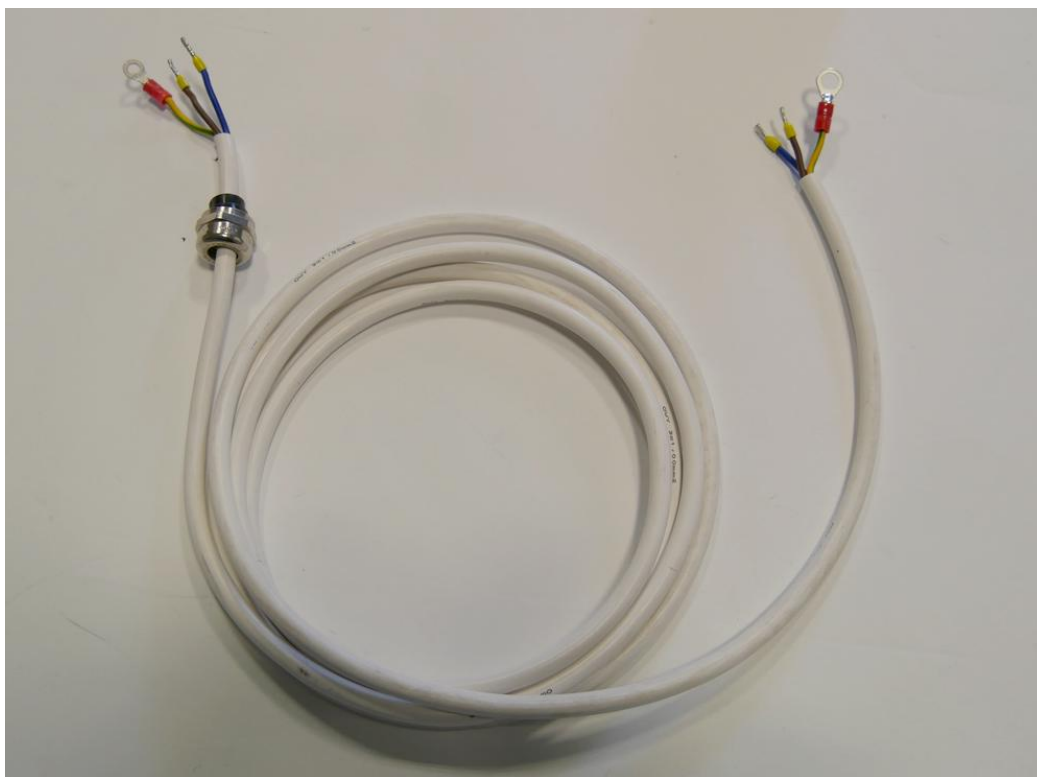
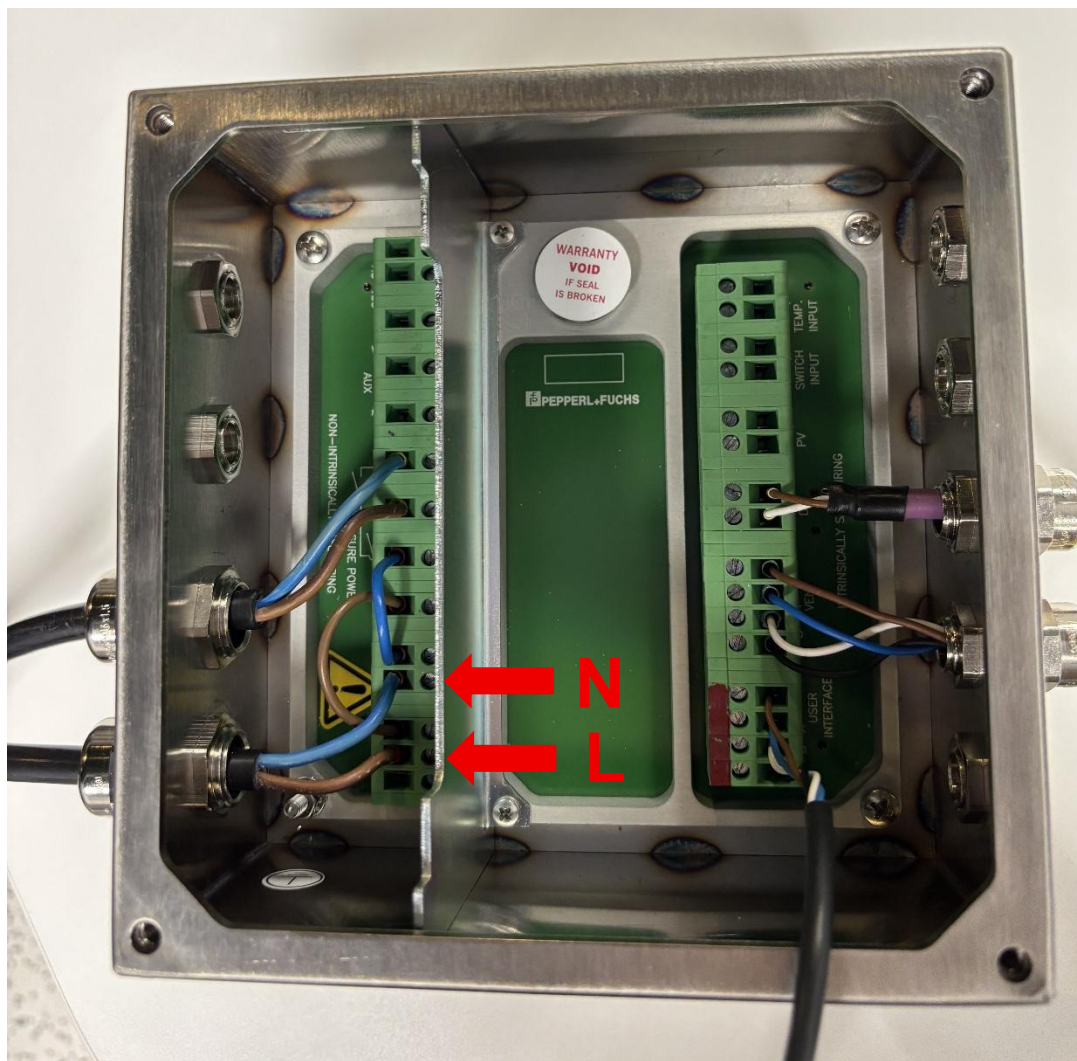

Figure 172. Main supply power cable.
Figure 173. Main power supply cable installation.
4. Connect the external 3x1mm² power cable (5) (cable not included in the delivery, Figure 172) into purging controller (3) through the M16 gland as shown in Figure 173. Screw the PE nut with 7mm socket wrench.